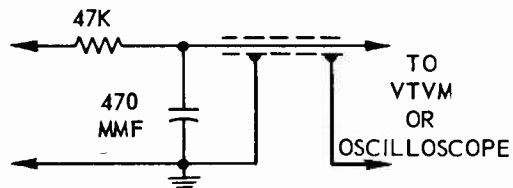

Figure 11. Decoupling network.
2. **Oscilloscope and VTVM** - Use direct probe terminated with decoupling network shown in Figure 11.